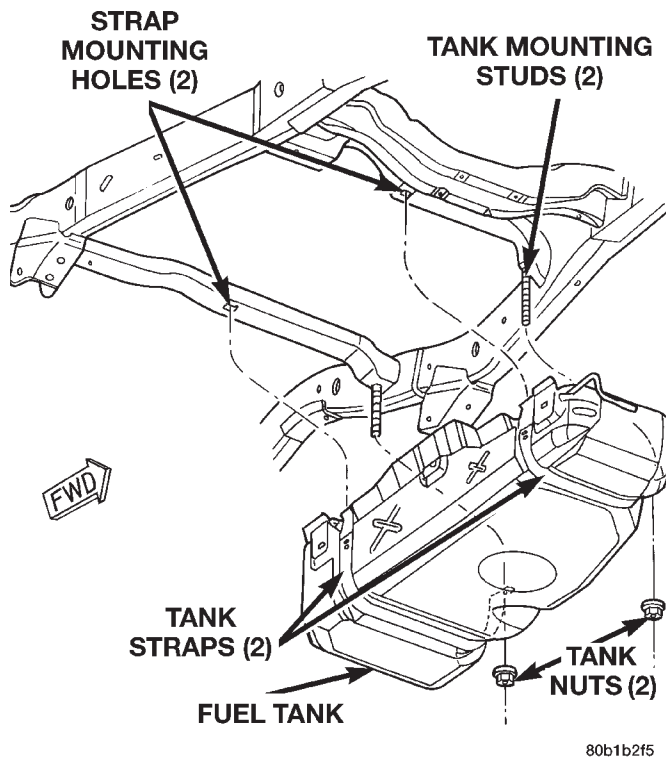

Fig. 35 Fuel Tank Mounting
(9) Place and secure a transmission jack under center of fuel tank and apply slight pressure.
(10) Remove two tank mounting nuts from mounting straps (Fig. 35). Position tank mounting straps to side of vehicle and lower tank just enough to allow access to connections at top of tank. **To prevent fuel loss, be sure rear of tank is higher than front of tank when lowering.**
(11) Clean quick-connect fittings (at top of fuel tank) of any dirt/contaminants before removal.
(12) Disconnect fuel supply line from fuel filter/fuel pressure regulator fitting at top of tank. Refer to Quick-Connect Fittings for procedures.